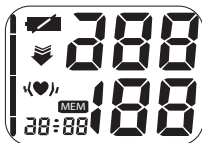

Fig. 2
4. Press the **START** button to turn the unit on; the unit will run a self-test, Fig 2.